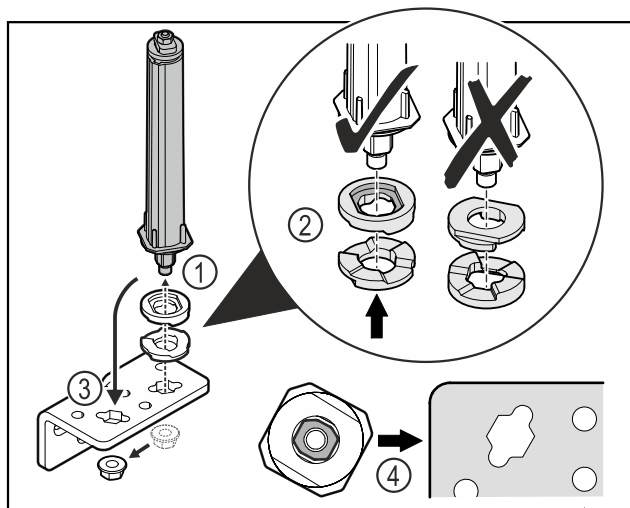

Fig. 33
- Loosen the nut and remove the door closing system Fig. 33 (1).
- Observe the correct alignment of the height adjustment washers Fig. 33 (2).
- Put the door closing system in the hinge and fix in place with the nut Fig. 33 (3).
- Observe the correct alignment of the door closing system when doing so Fig. 33 (4).